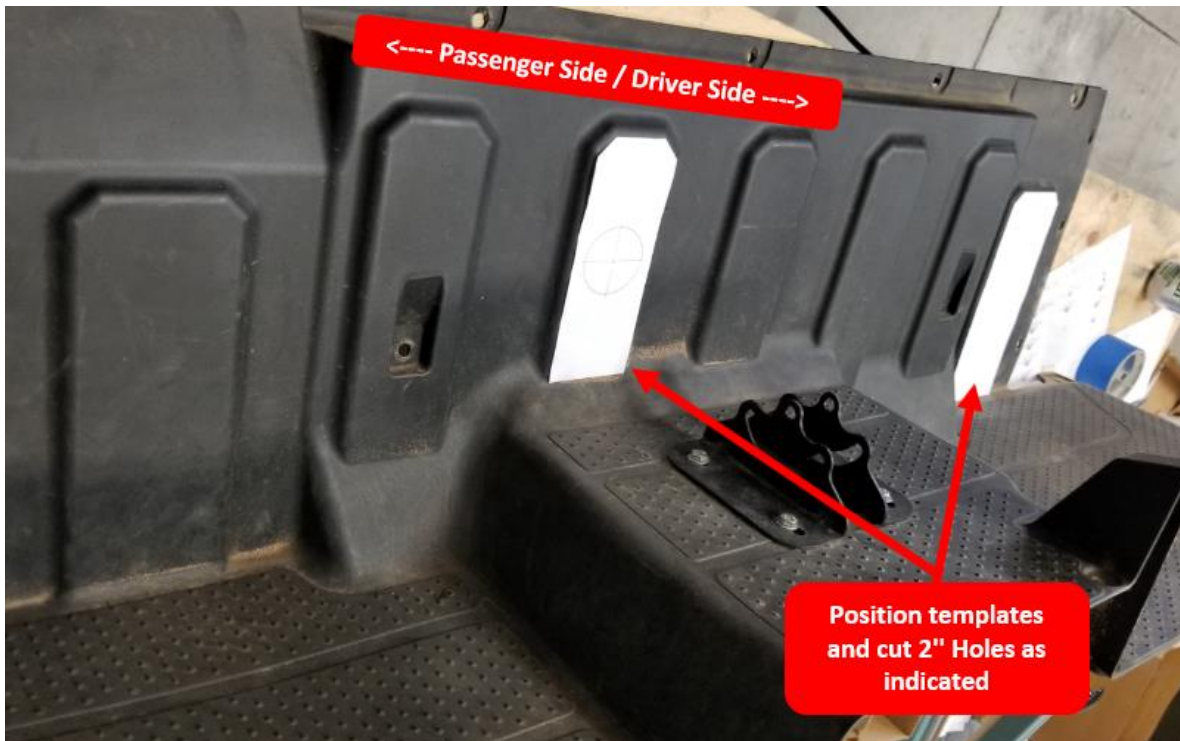

Figure 4
11. Cut out Template #5 and Template #6 from the back of these instructions. Position them on the front of the plastic body panel removed in Step #7. Attach the templates with tape and then using the 2" hole saw and pilot bit, cut two holes into the body panel. Break all rough edges as necessary. See Figure 4.